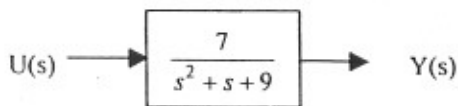
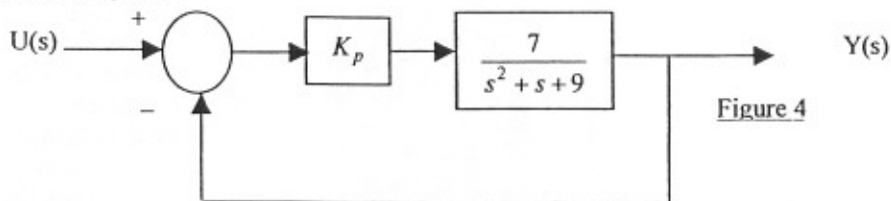

Figure 3
Figure 4
- (38) Q4: Proportional control with gain K_p is used for the control of the open loop system of Figure 3, as shown in Figure 4.
- b) For the closed loop system of Figure 4 with $K_p = 10$, calculate the following:
- c) Use rate feedback to obtain critical damping for the system of Figure 4. Your answer should include a numerical value for the gain associated with the rate feedback.